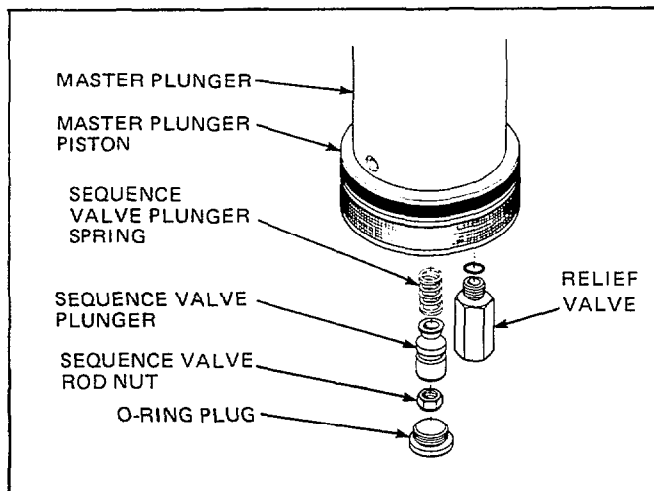

Figure 9. Sequence Valve Plunger Assembly and Relief Valve
6. Remove the relief valve located on the bottom of the master plunger piston. See Figure 9. It is recommended that the relief valve be replaced. Tighten to a torque of 15–20 ft.-lbs.
- a. Remove the O-ring plug from the base of the master piston. See Figure 9.
- b. Remove the nut retaining the sequence valve plunger and spring. Remove the sequence valve plunger and spring. See Figure 9.